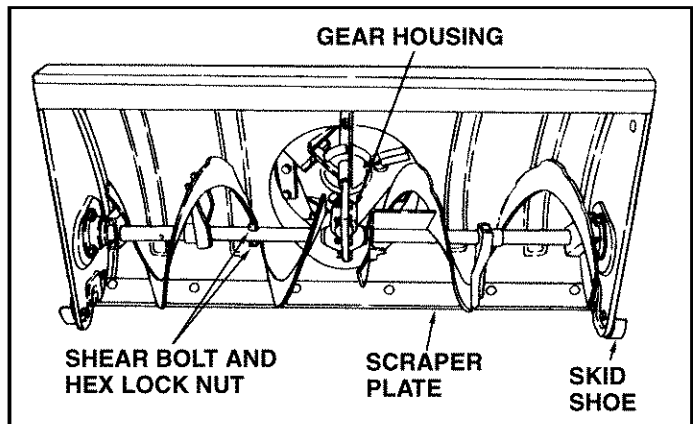

FIGURE 38
- If the augers will not turn, check to see if the shear bolts have sheared. See figure 38. Two replacement shear bolts and hex lock nuts have been provided with the snow thrower. For future use order part number 710-0890A shear bolt and number 43064 hex lock nut.